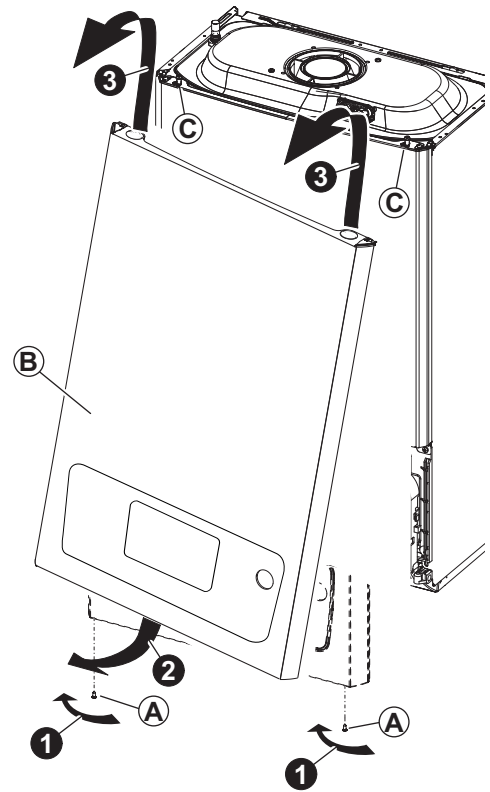

Fig. 7.1
7.2 CASING REMOVAL - Figs. 7.1, 7.2, 7.3 and 7.4
Case front panel - Fig. 7.1
10. Refit the case front panel in position over the top pins and push it back against the side panels, then press around the button/display area to snap the cover to the control panel and secure in position with the two screws (Fig. 7.1).